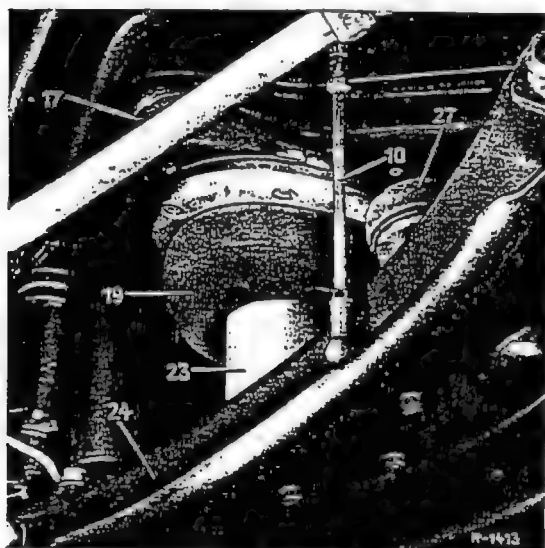

Fig. 32-14/1
3. Detach the connecting rod (10) for the leveling valve from the lower control arm; (Fig. 32-14/1). To do this, unscrew the ball pin.